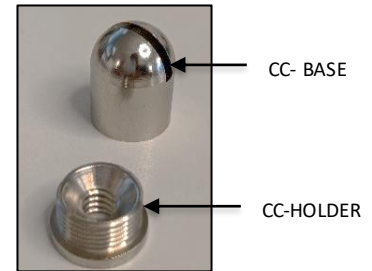

FIG. 6 - CEILING COUPLER ASSEMBLY
1. Dis-assemble the CEILING COUPLER into two components CC-BASE and CC-HOLDER as shown in FIG. 6.